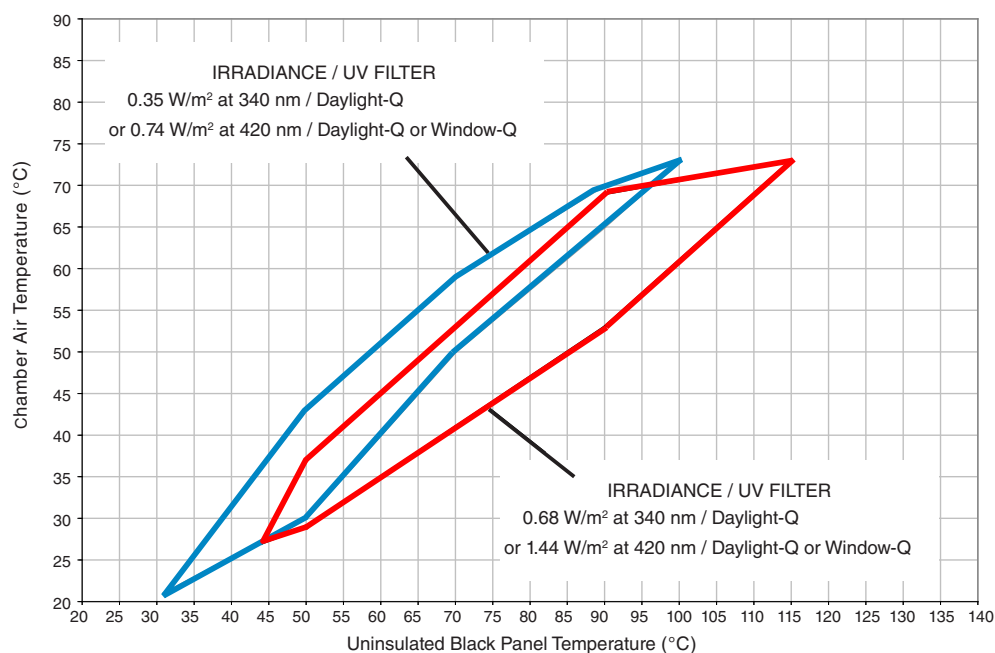
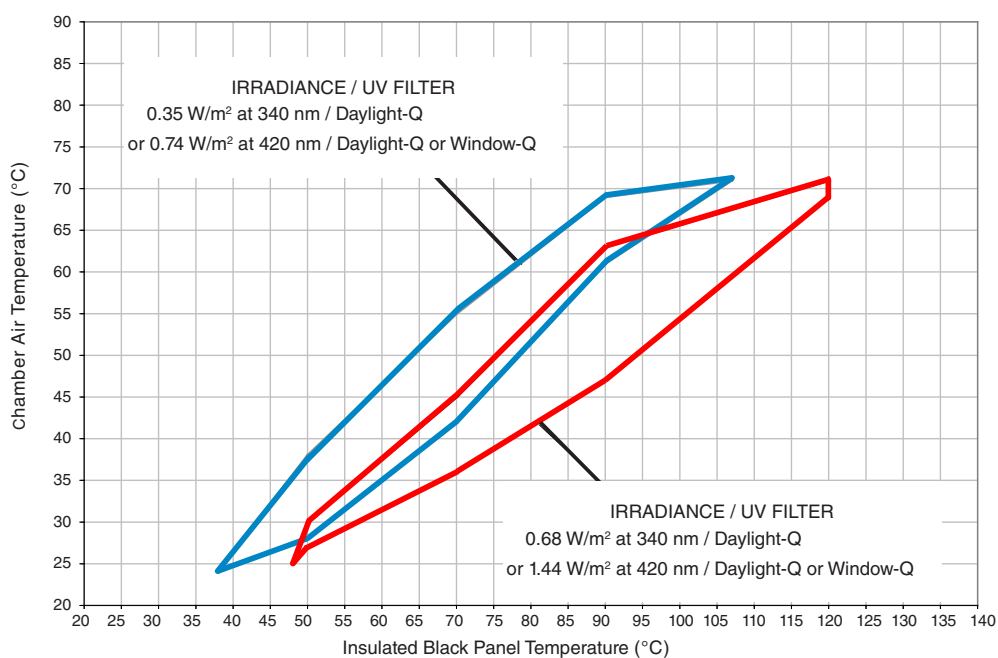

Figure 11.2c: **Uninsulated** Black Panel vs. chamber air temperature at 50% relative humidity and 23 °C Lab temperature.
Figure 11.2d: **Insulated** Black Panel vs. chamber air temperature at 50% relative humidity and 23 °C lab temperature.
- Figures Figure 11.2c and Figure 11.2d show the chamber air temperature ranges for Xe-3 models with chiller.